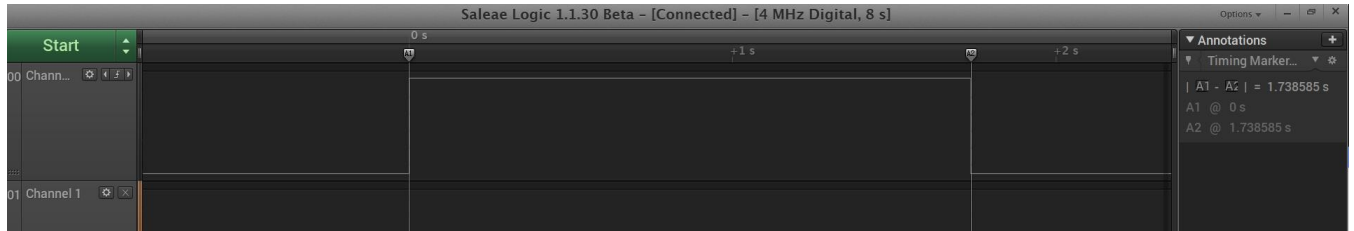

Figure 3-1 Logic Capture Results (complete preamble)
1. If the preamble is more complete and the number of internally contained preamble is greater than the configured chirp_num, GPIO11 will be pulled up for the duration of preamble+payload (the preamble is not complete, so the overall GPIO11 pull-up time is shorter than the case in Figure 3-1). At this point, the receiver can produce the correct rxdone result.